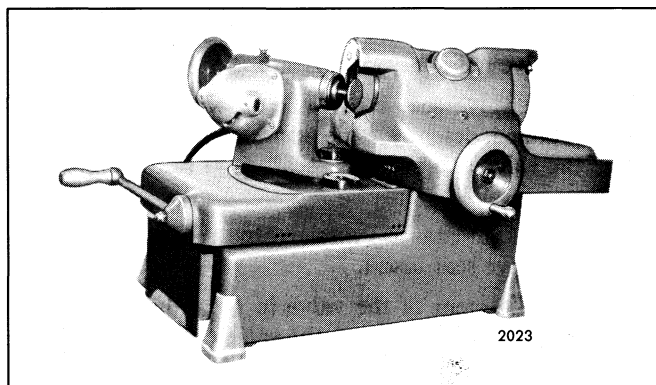

Fig. 12 - Refacing Exhaust Valve
- Reface an exhaust valve which is to be reused (Figs. 12 and 13). The edge of the valve at the valve head must not be less than .030" irr thickness after refacing for naturally aspirated or turbocharged engines or .070" for turbocharged intercooled engines. The proper angle of the valve seat is 30°.
- The former Inconel valve was used in naturally aspirated and turbocharged engines, while the Inconel-Stellite valve was used in turbo-charged-intercooled (TI) models.